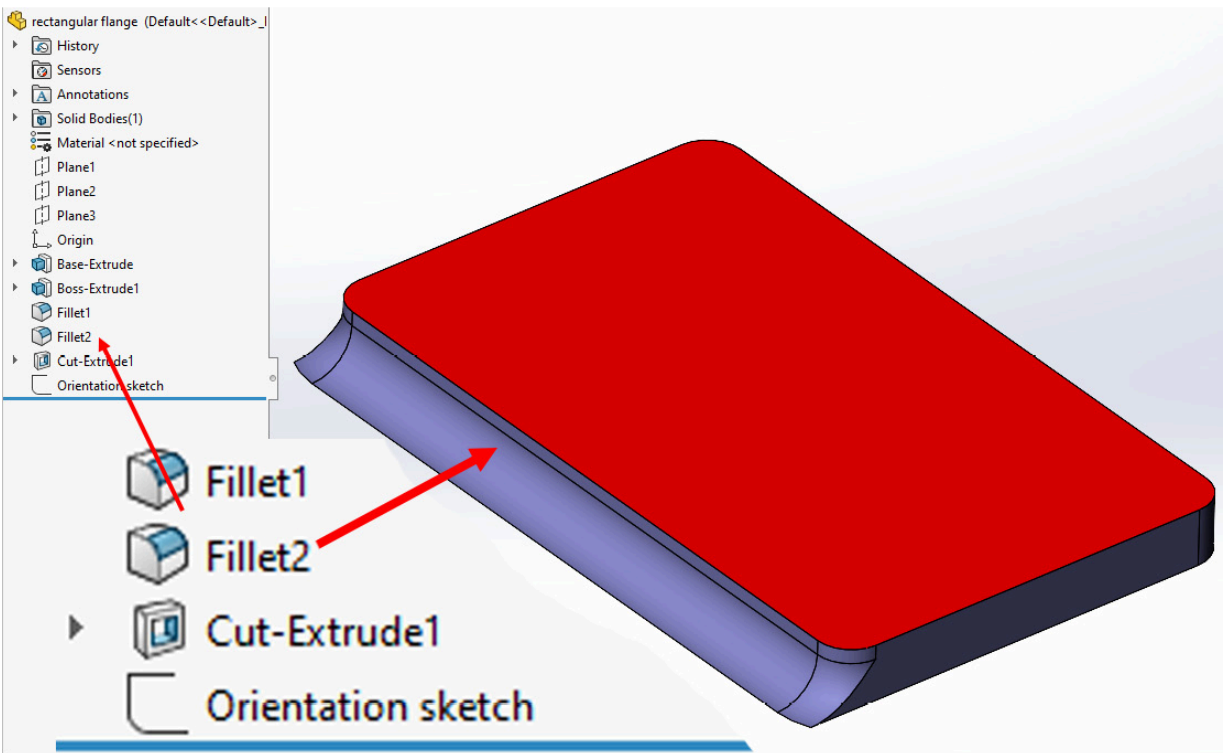

Figure 10.9: The Fillet around the bottom of the tool is no longer correct
5. Note that the Fillet that was running around the base of the tool no longer travels all the way around the tool (*Figure 10.9*). This Fillet is important for ensuring that the tool works correctly (sharp edges on Forming Tools can potentially cause manufacturing issues):